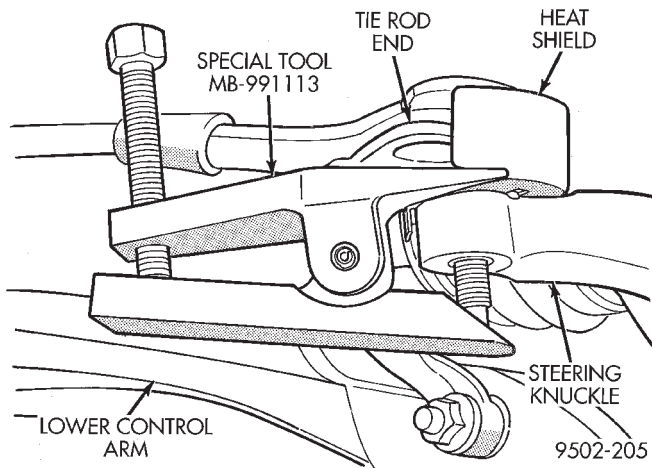
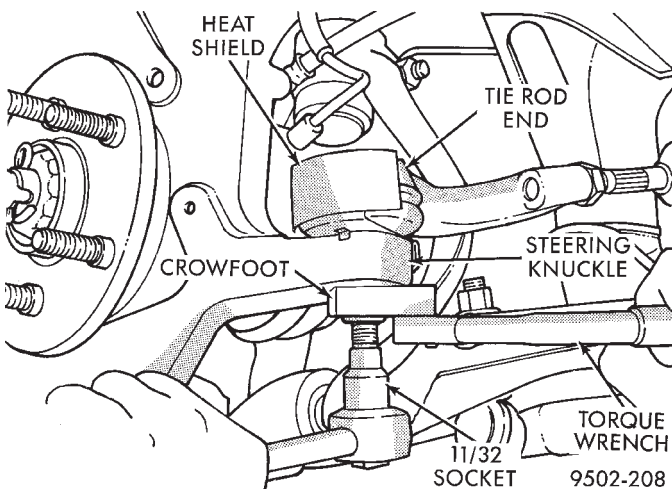

Fig. 8 Tie Rod End Removal From Steering Knuckle
Fig. 22 Torquing Tie Rod End Attaching Nut
(7) Remove both tie rod end studs, from the steering knuckles, using Remover, Special Tool MB-991113 (Fig. 8).
(11) Install tie rod seal boot heat shield (Fig. 8) on tie rod end.
(12) Install tie rod end into steering knuckle. Start tie rod end to steering knuckle attaching nut onto stud of tie rod end. While holding stud of tie rod end stationary, tighten tie rod end to steering knuckle attaching nut (Fig. 8). Then using a crowfoot and 11/32 socket, torque tie rod end attaching nut to 61 N·m (45 ft. lbs.) (Fig. 22).